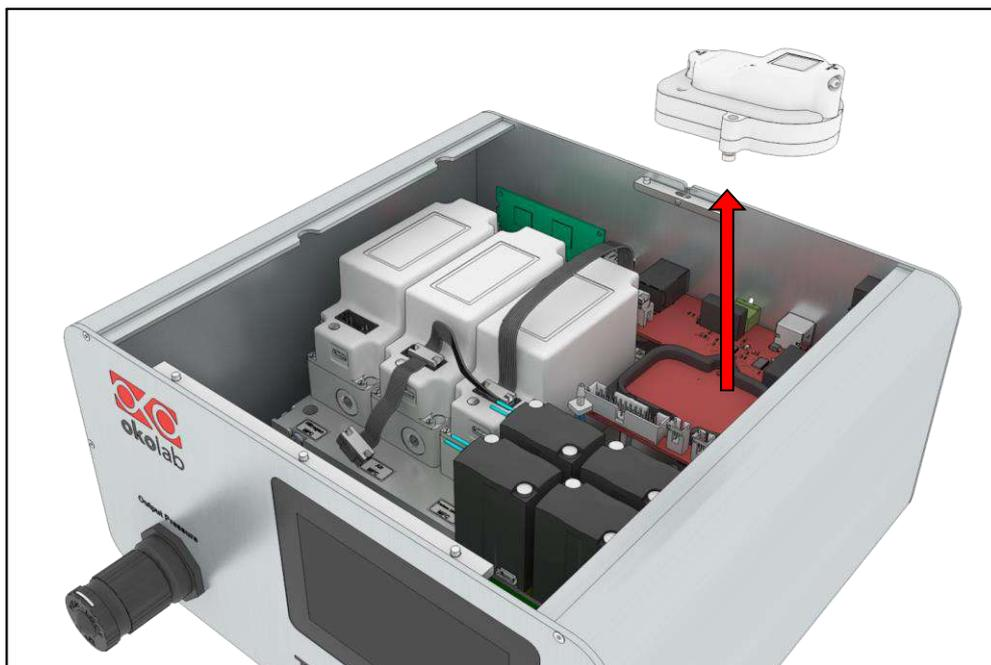

Figure 114. Extract the CO2-O2 Module from the Tri-Gas-Mixer.
5. Lift the CO2-O2 Module up from the Tri-Gas-Mixer as shown in Figure 114 and replace it with the new CO2-O2 Module, required to Okolab